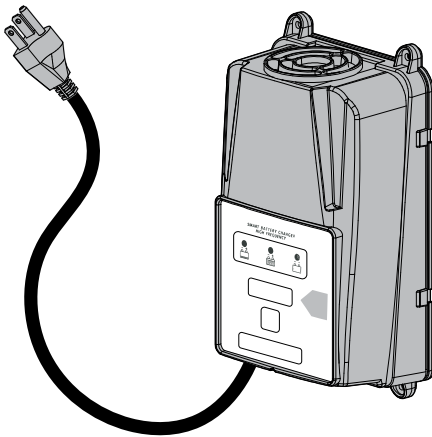

Figure 34. Battery Charger
5. When charging is complete the battery gauge on the diagnostic display will indicate 100% (Figure 34)
The buggy is equipped with an on-board SMART charger (Figure 34) which maintains the battery full charge condition without resulting in over charging.